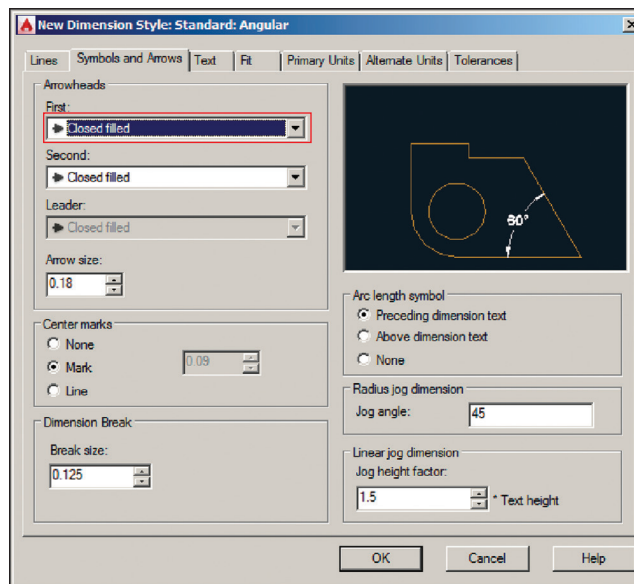

FIGURE 11.8 Customizing the arrowheads in the Angular substyle
7. The New Dimension Style: Standard: Angular dialog box appears. Select the Symbols And Arrows tab. Change the First arrowhead drop-down to Closed Filled. The Second arrowhead automatically changes to Closed Filled as well (see Figure 11.8). The preview image reveals how the angular dimension will appear. Click OK.